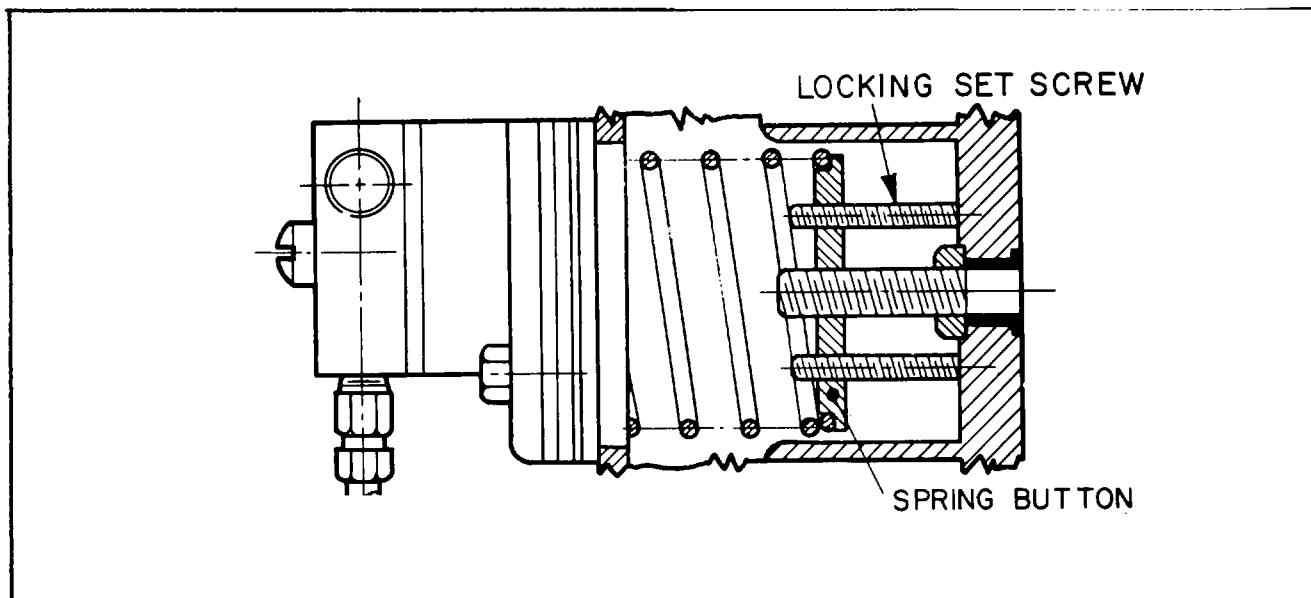

Figure 3. Partial Section of Air Operator (3V-9930-L).
A. The control can be adjusted as follows: See figure 3.